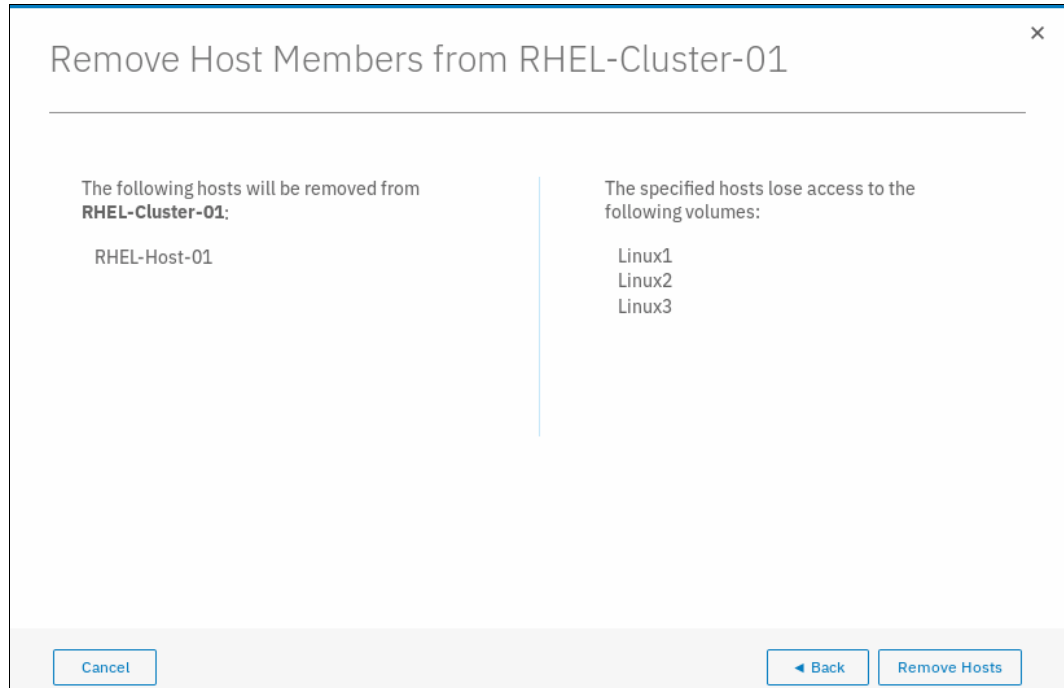

Figure 5-101 Confirmation window
6. Click **Next**. A window in which the removal of the selected host member from host cluster is confirmed opens, as shown in Figure 5-101.